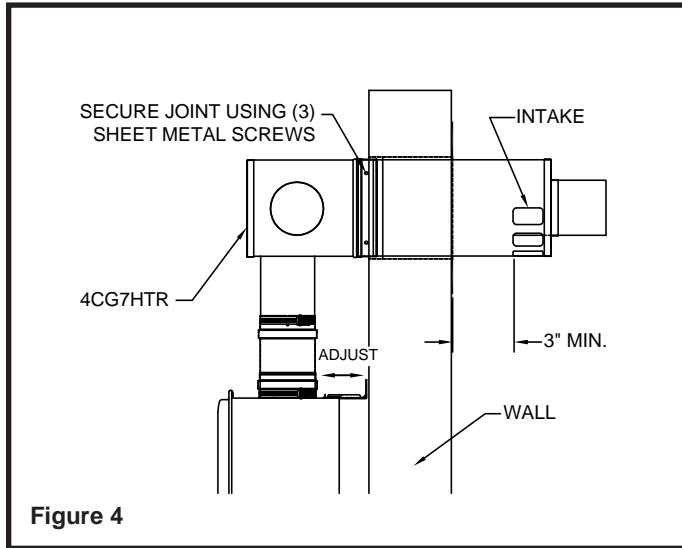

Figure 4
- Connect the vent termination by slipping it into the 90 degree section until the female end stops at the formed bead. Secure the slip fit connection with 3 sheet metal screws provided. The termination must be rotated so that the intake air openings are located on the bottom side (See **Figure 4**). Once connected, verify that the intake air vents on the termination are at least 3 inches from the outer surface of the wall. Most wall mounted water heaters have adjustable mounting brackets to move the heater closer or further from the wall. Make adjustments if needed.